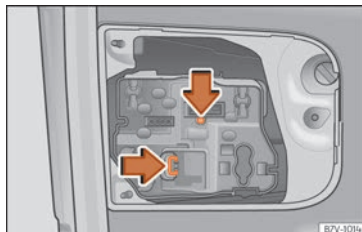

Fig. 69 On the rear lid: remove the bulb holder.
- Press on the attachment tabs in the direction of the arrow »» Fig. 69 and pull out the bulb holder.